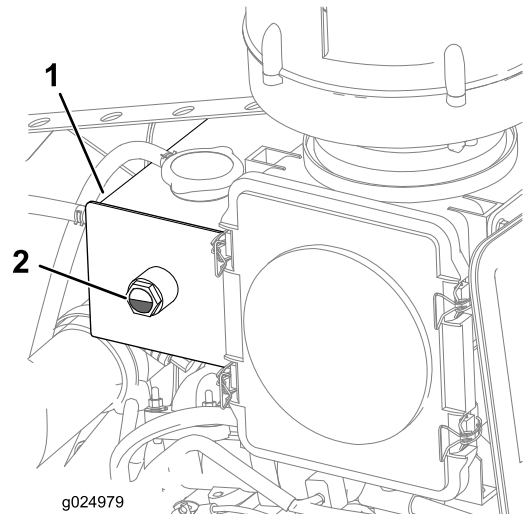

Figure 26
4. Check the coolant level in the reservoir (Figure 26).
Note: Ensure that the coolant level is between 1/4 and 3/4 of the way up in the sight glass (Figure 26).